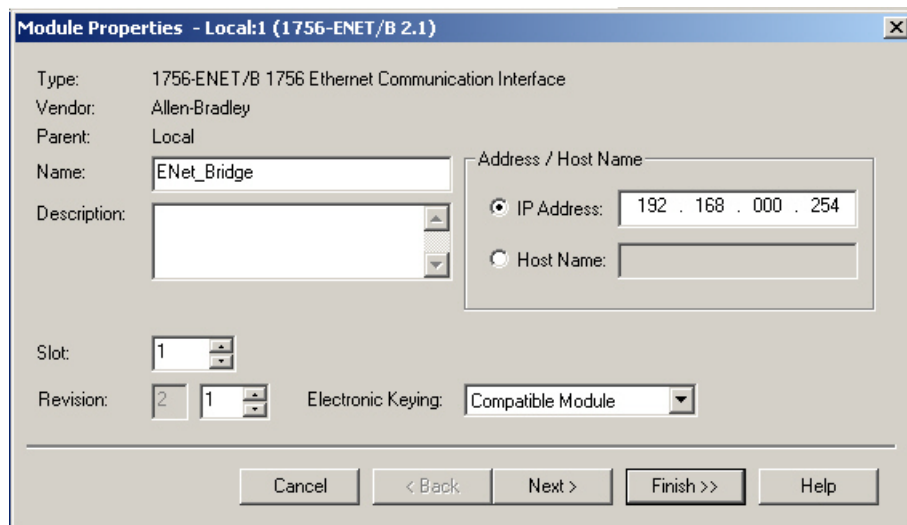

Figure 6.2 Setting Module Properties
- 3) Enter the following information in the *Module Properties* window that opens. All parameters not listed here are optional. Figure 6.2 shows a completed screen.
You will still have to set an IP address for the Ethernet Port if the port is built into your processor. Right click on the port name in the I/O Configuration screen and select “Properties”. A Module Properties window similar to the one shown in figure 6.2 will open. In this window you must set an IP Address for the port, *not* the IP address of the SD17060E.